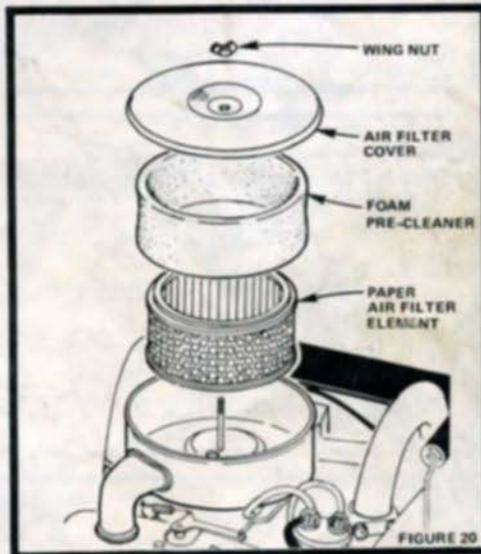

FIGURE 20
- Unscrew Wing Nut (Fig. 20) to remove Air Filter Cover, Paper Air Filter Element and Foam Pre-Cleaner.